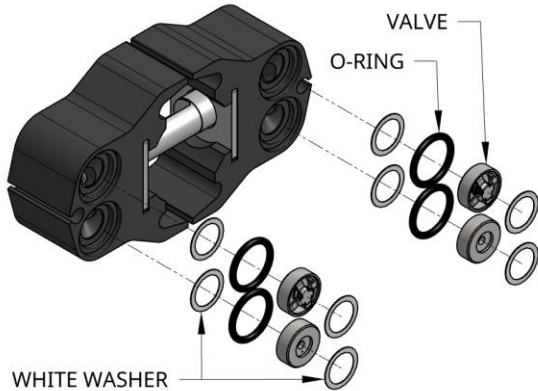

Figure 6
- Adjust plunger slot position towards center and have slot facing work surface. Replace all valves, o-rings, and white washers. Refer to Fig. 6 or 7 or video for proper orientation.